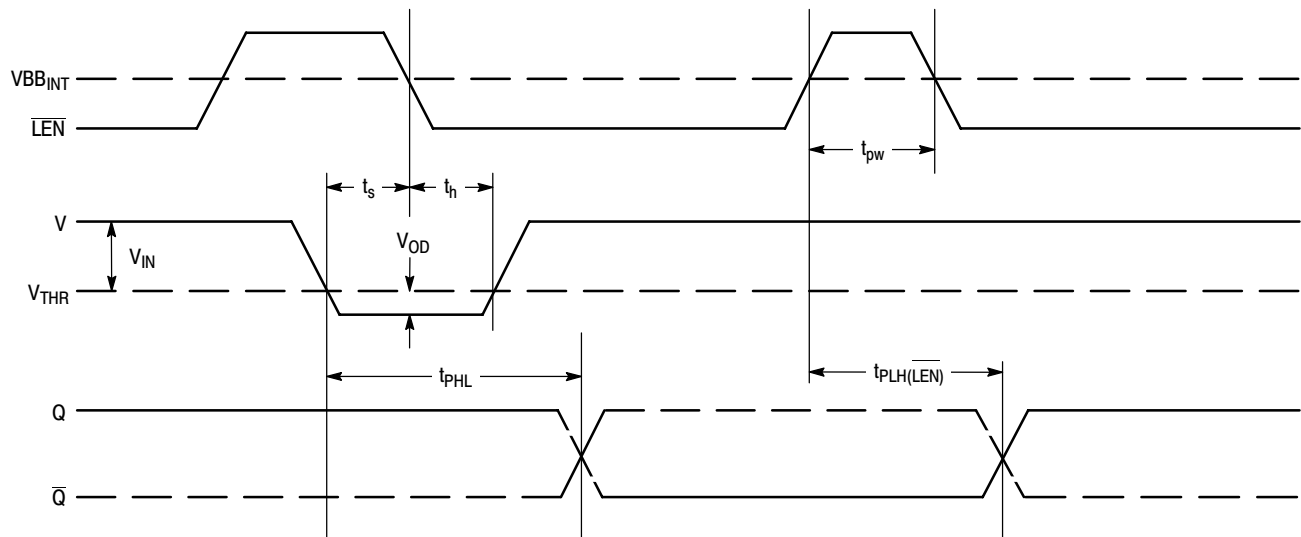

Figure 5. Input/Output Timing Diagram
12. Refer to Figure 5 and note that the input is at 2.5 V TTL levels with the input threshold range between the 20% and 80% points. The delay is measured from the crosspoint of the input signal and the threshold value to the crosspoint of the Q and \bar{Q} output signals.
The timing diagram (Figure 5.) is presented to illustrate the MC10E1652's compare and latch features. When the signal on the $\overline{\text{LEN}}$ pin is at a logic high level, the device is operating in the "compare mode," and the signal on the input arrives at the output after a nominal propagation delay (t_{PHL} , t_{PLH}). The input signal must be asserted for a time, t_s , prior to the negative going transition on $\overline{\text{LEN}}$ and held for a time, t_h , after the $\overline{\text{LEN}}$ transition. After time t_h , the latch is operating in the "latch mode," thus transitions on the input do not appear at the output. The device continues to operate in the "latch mode" until the latch is asserted once again. Moreover, the $\overline{\text{LEN}}$ pulse must meet the minimum pulse width (t_{pw}) requirement to effect the correct input-output relationship. Note that the $\overline{\text{LEN}}$ waveform in Figure 5. shows the $\overline{\text{LEN}}$ signal swinging around a reference labeled V_{BBINT} ; this waveform emphasizes the requirement that $\overline{\text{LEN}}$ follow typical ECL 10KH logic levels because